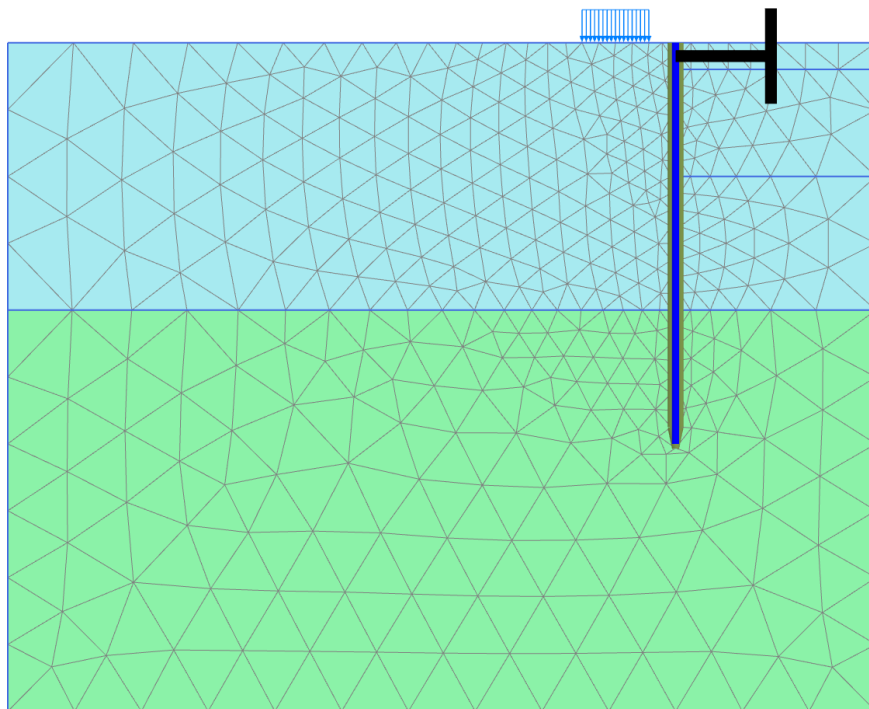

Figure 47: The generated mesh
3. Click the **View mesh** button  to view the mesh as shown in Figure 47 (on page 62).